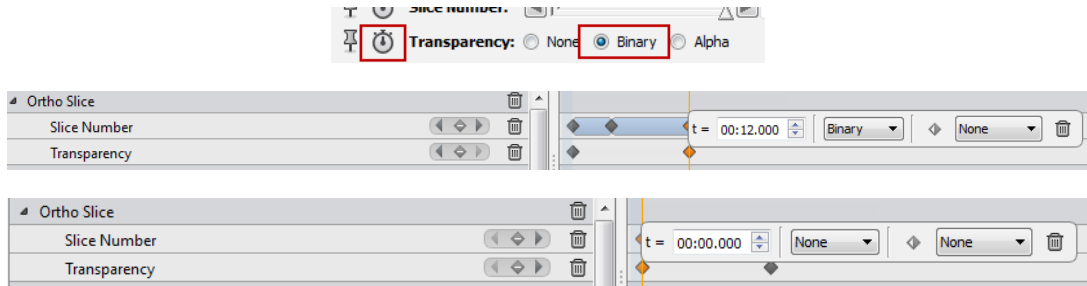

Figure 9.12: Changing the Ortho Slice *Transparency* mode
- Move the master time slider to 00:00, and set the Ortho Slice Transparency to "None" (See Figure 9.12).